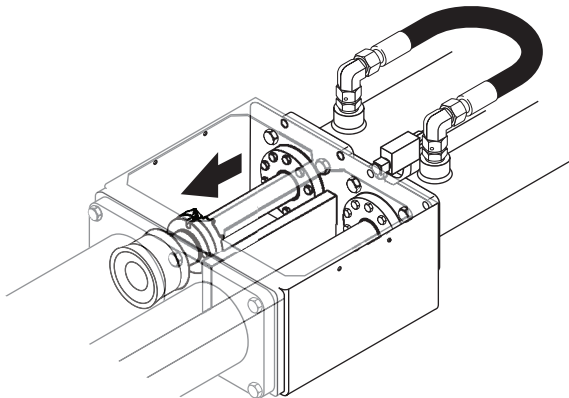

Figure 28
4. Restart the engine, and clear all E-stop requests. Press the concrete pump forward or reverse button and ram change button simultaneously. Slowly extend the cylinder until the ram is installed in the material cylinder but the mounting flange is still exposed enough to remove the nut and bolt (Figure 28). When in position, release the concrete pump forward or reverse button or ram change button to stop the differential cylinders. Shut off the engine. Remove the nut and bolt.